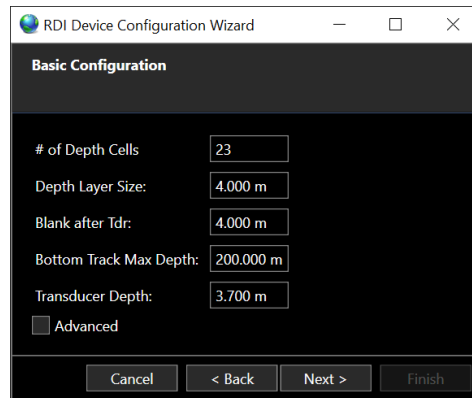

FIGURE 18-12 RDI DEVICE CONFIGURATION - BASIC CONFIGURATION
- III. Basic Configuration , this allows the user to set the following, see Figure 18-12